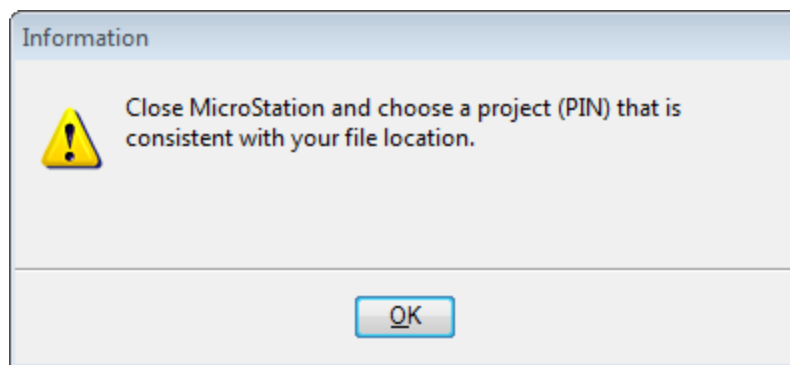

Figure 28-1: Close MicroStation and pick correct PIN.
- ♪ If you get warning stating that you need to “Close MicroStation and choose a project (PIN) that is consistent with your file location” (Figure 28-1), it means that you entered MicroStation incorrectly. This is a safety measure to insure that the user is going to write the correct information into the title boxes. This is all based on the *Project* pull down matching the PIN you are working on. Close MicroStation if you get this error and go back to **Step One** and try again. If you still get an error, contact CADD Support personnel.